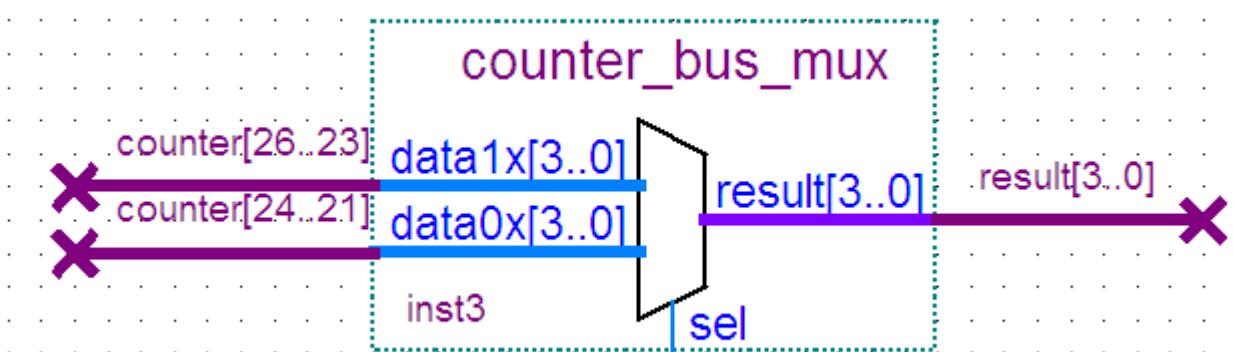

Figure 3-26 Renamed counter_bus_mux Bus Lines
h. Click OK. **Figure 3-26** shows the renamed buses.